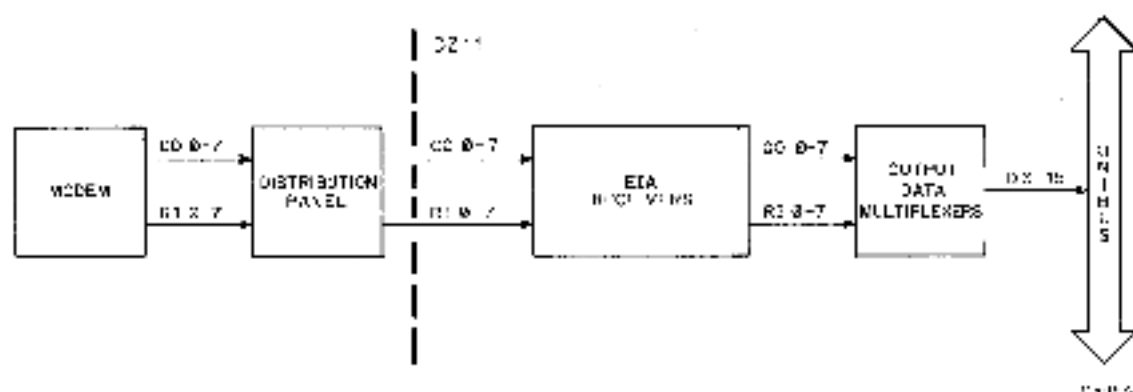

Figure 4-20 MSR Diagram
4.5.8.5 Modem Status Register (Not Used for 20 mA Version) – The modem status register (MSR) is a read-only segment of device register 6. The MSR shown in Figure 4-20 examines data relative to the status of modem operation on each line, such as ring indication (low byte) and carrier-on flags (high byte). The register is dynamic in that it represents the current state of these lines. These lines must be continuously monitored as transitions on them do not cause interrupts.